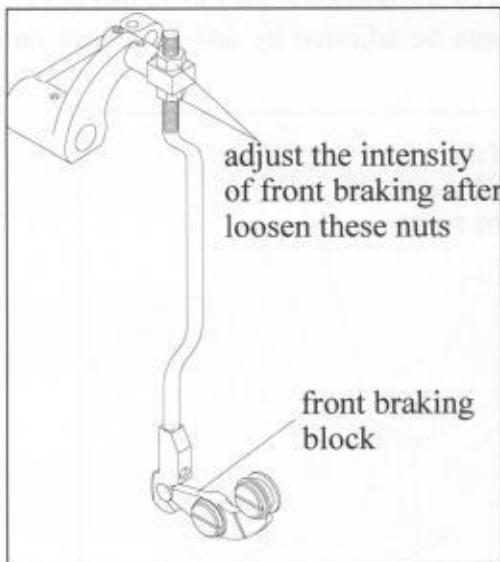

Fig.9
**4.7.3** Loosen the two nuts and adjust the front braking block to set the intensity of lower thread front braking. (as shown in Fig.9)